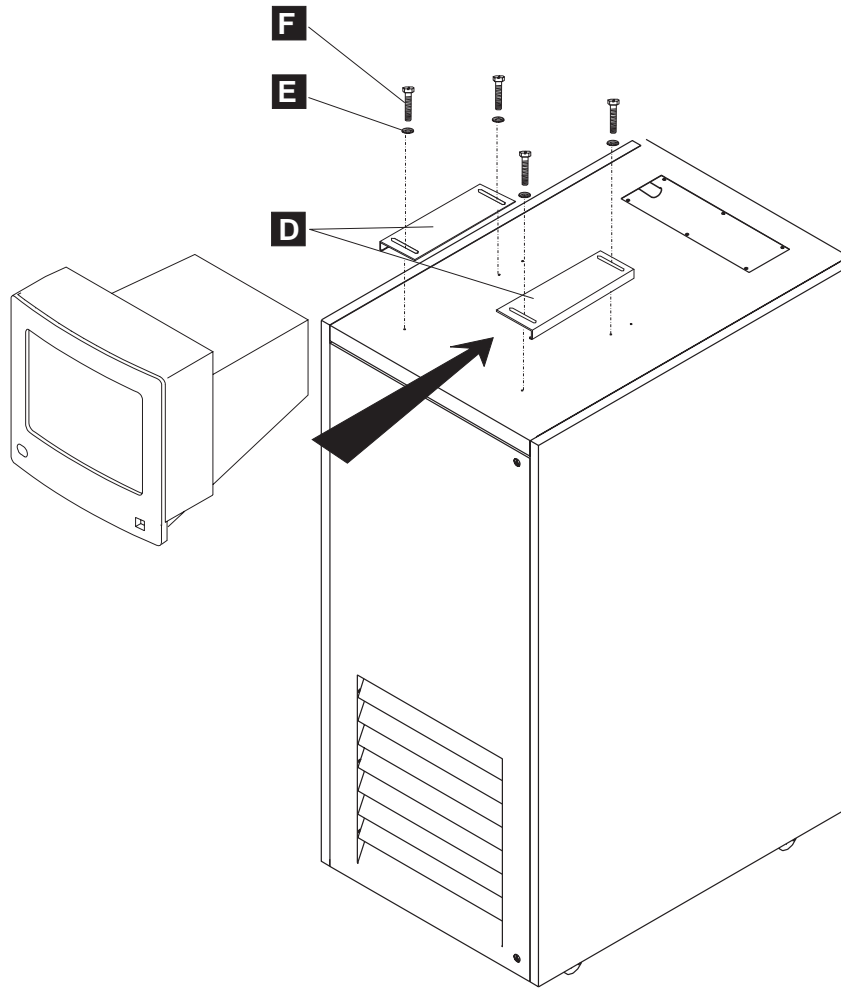

Figure 1-29. Safety Retainers Installation
- a. ____ On the top of the 29U rack install the safety retainers **D** (PN 02N1503) with screws **F** (PN 1621601) and star washers **E** (PN 1622336), see Figure 1-29 on page 1-24.